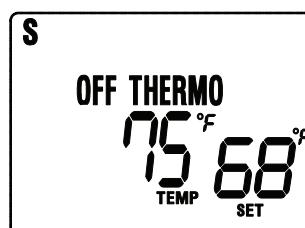

Fig. 10 Thermo Mode
Step 2: Press the MODE button a second time to put the system in THERMO mode (Fig. 10).